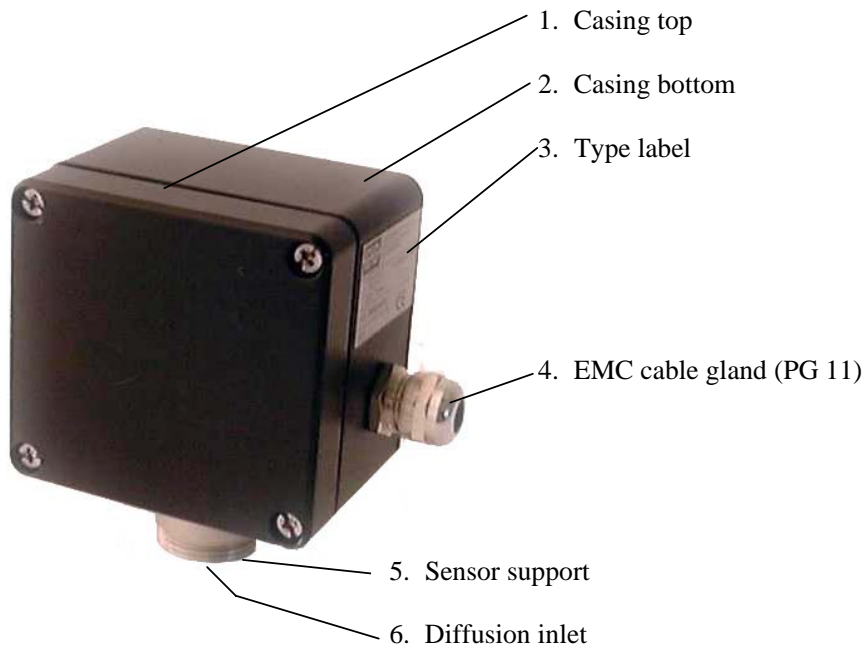

Fig. 2
The design of the CS21 is shown in Fig. 2. The sensor is mounted in the sensor support (pos. 5). The gas enters the sensor chamber through the diffusion inlet (pos. 6). The casing (pos. 2) includes a resin encapsulated p.c. board with electronic components. The electronic circuit on the p.c. board converts the measurement signal into the output of 0.2 .. 1 mA or 4 .. 20 mA, which is supplied to the evaluation unit by means of the transmitter cable.